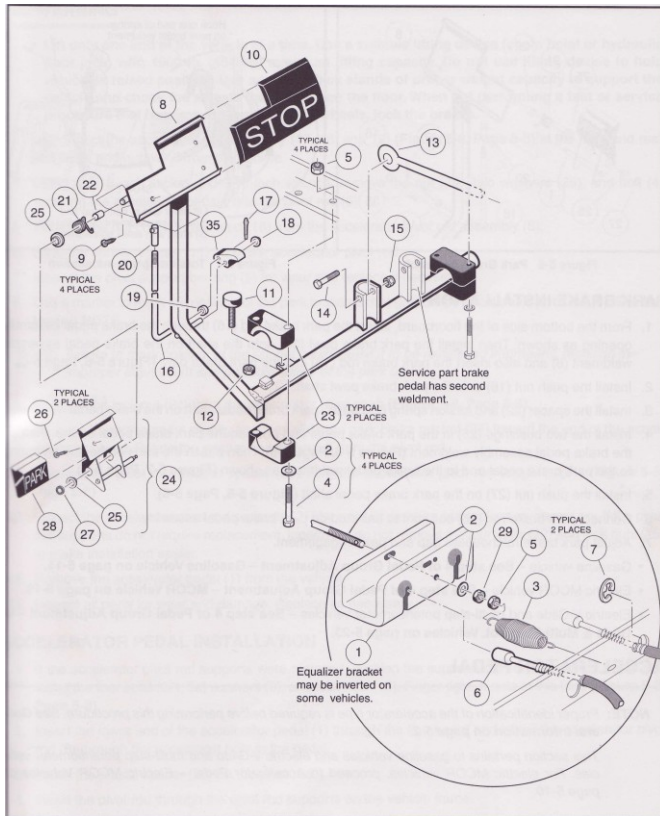

Figure 5-5
4. Disconnect the equalizer rod (13) from the pedal shaft by removing the bolt (14) and nut (15) (Figure 5-5).
5. Remove the nuts (5), flat washers (2), bolts (4) and mounting blocks (23). If the mounting blocks show signs of excessive wear or are damaged, they must be replaced with new ones before installing pedal assembly.
6. Remove the nut (12) and brake stop bumper (11).
1. From the top side of the floorboard, insert the brake pedal weldment assembly through the opening in the floor. Install the brake pedal stop bumper (11) on the weldment (Figure 5-5, page 5-5). Do not tighten the jam nut (12) at this time.
2. Attach the equalizer rod (13) to the brake pedal weldment assembly (6) as shown (Figure 5-5, page 5-5). Tighten the bolt (14) and nut (15) to 17 in-lb (1.9 Nm).
3. Position and attach brake pedal assembly and mounting blocks (23) and washers (2) to vehicle frame as shown. Tighten the bolts and nuts to 50 in-lb (5.7 Nm) (Figure 5-5, page 5-5).
To remove the park brake rod and pawl assembly (16-19 and 35), remove the push nut (18) and disconnect the ball joint sleeve (20) from the park brake pedal (24) (Figure 5-5). See following note.